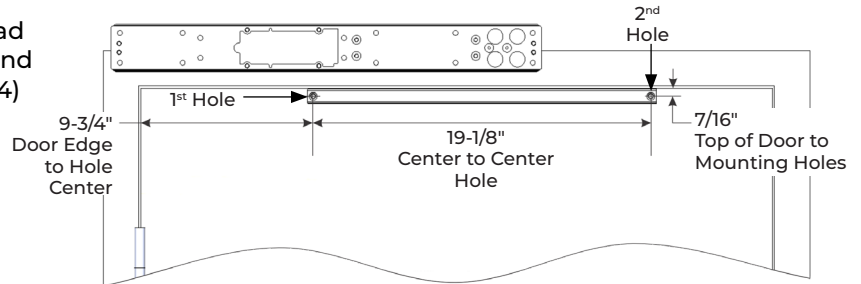

Fig. 4
- Using the template (available for download from www.nortonrixson.com), measure and mark the first track mounting hole. (Fig. 4)